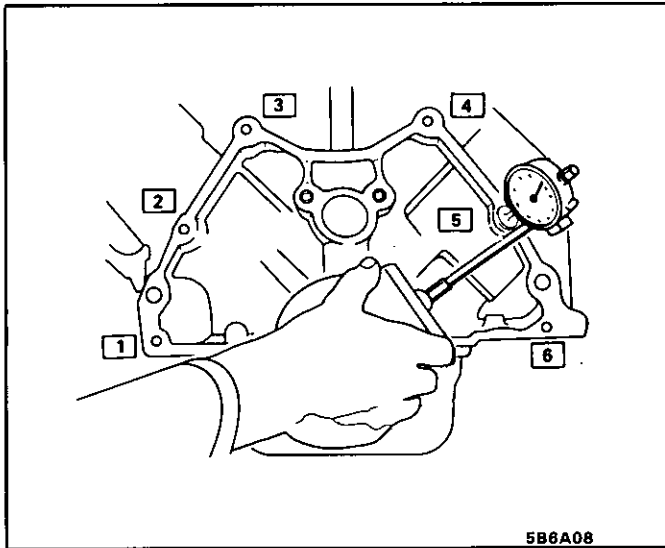

Figure 50 Measuring Transmission Mounting Surface Run Out
- Six mounting hole bosses (Figure 50)
1. Hold gage plate flat against the crankshaft flange (Figure 50).
2. Place dial indicator stem on the transmission mounting bolt hole boss (Item 1, Figure 50) and set indicator to 0.